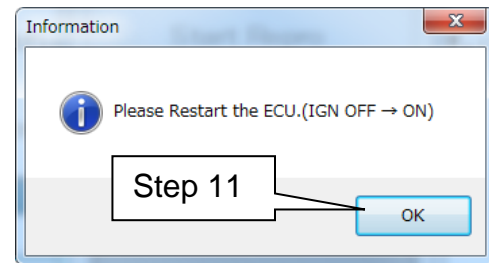

Figure 16
- After selecting OK in Figure 16, the OCS reprogramming will likely complete items 5 through 7 quickly (see “Complete” screen, Figure 18 below).